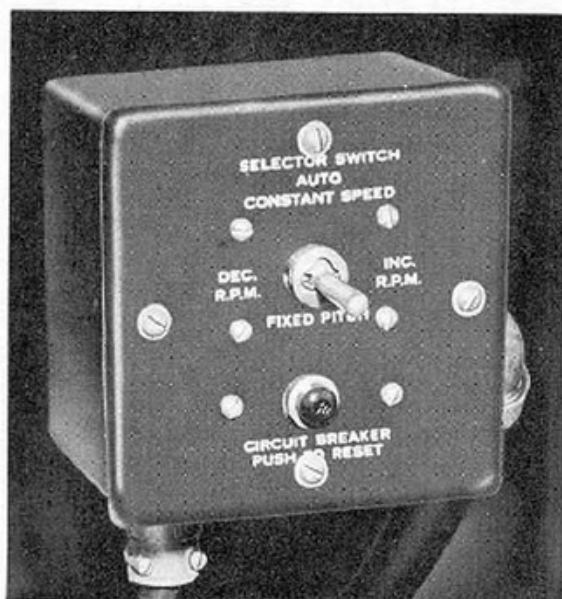

Figure 4—Electric Propeller Switches
b. Controls for the Curtiss Electric Propeller consist of a circuit breaker, a toggle selector switch mounted on a small switch box to the left of the instrument panel, (figure 4) and a lever on the control quadrant to set the propeller governor to desired engine speed. The selector has four positions: "AUTO CONSTANT SPEED," "INCREASE RPM," "DECREASE RPM," and "FIXED PITCH." When in "AUTO CONSTANT SPEED," the propeller governor automatically maintains engine rpm as set at the quadrant. "INCREASE RPM," and "DECREASE RPM" are momentary positions which, when used, vary engine rpm as indicated, and when released, leave the propeller in a fixed pitch condition.